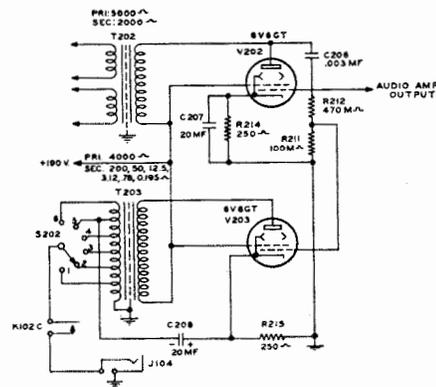

Fig. 18 Sidetone Amplifier Circuit (Dwg. No. 500 0226 00A)
2.7.4.1. A sidetone amplifier, Figure 18, is incorporated in the same unit as the two stage speech amplifier. The amplifier employs a Type 6V6GT beam pentode tube V203. The output of the audio driver V202 in addi-